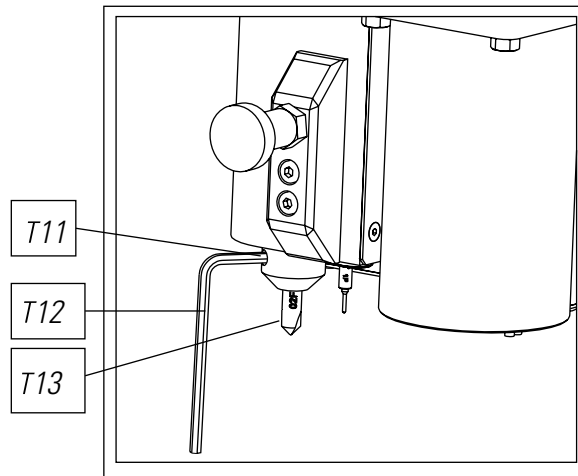

FIG. 24
- 3) Unscrew the prisoner screw (T11) with a 3mm spanner (T12) and remove the cylindrical cutter (T13). (Fig. 24)